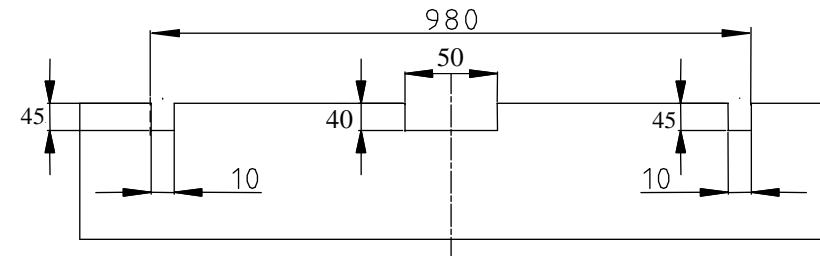

Fig.2
4. Fix bumper after cut his fragment – see fig. 2 (inside, central part).
5. Fix tow-ball (pos. 2) and socket plate (pos. 3) using bolts M12x75mm (pos. 7) from accessories.